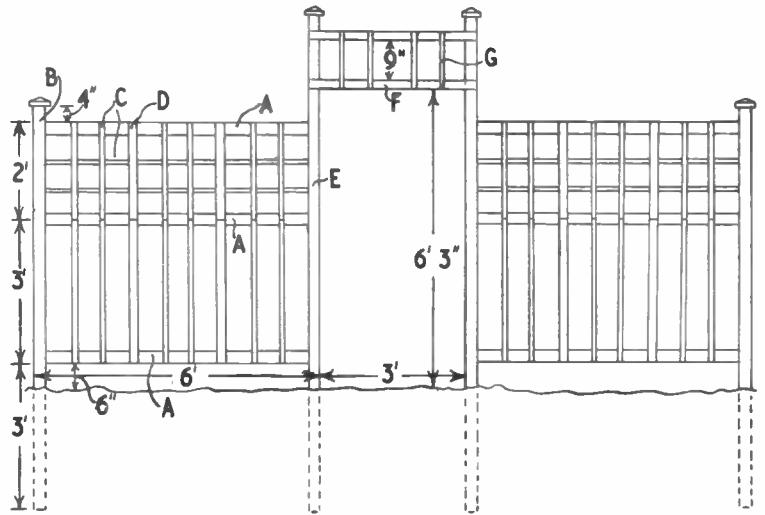

Fig. 1
Most of the measurements are shown in Fig. 1. To make a strong structure the uprights (B) and (E), also the cross pieces (A), should be of 3ins. square oak. To save expense these pieces could well be rough sawn timber and would not detract from the appearance of the finished work. Pieces (B) are cut 8 ft. 4½ins. long and the long uprights (E)
Having satisfactorily assembled the main pieces (A), (B) and (E) you can now commence to nail in position the narrow strips of wood to give the decorative effect. These strips (C) and (D) should be about $\frac{3}{8}$ in. thick and of suitable width, say about 1 in. to $1\frac{1}{2}$ in. for (C) and 2 ins. for pieces (D). It will be obvious from Fig. 1 how these are nailed to pieces (A).